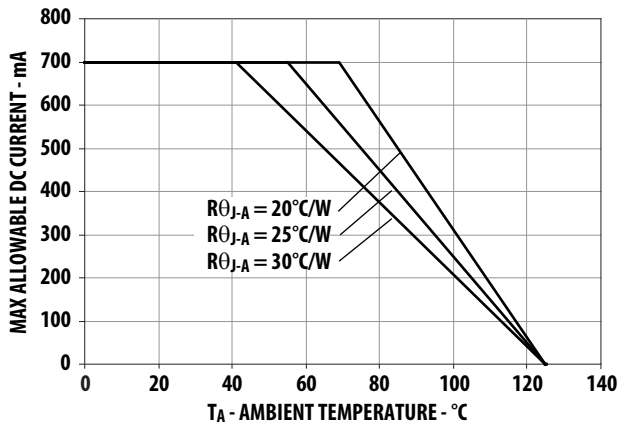

Figure 9. Maximum Forward Current vs. Ambient Temperature.
1. Derate linearly based on Figure 9.